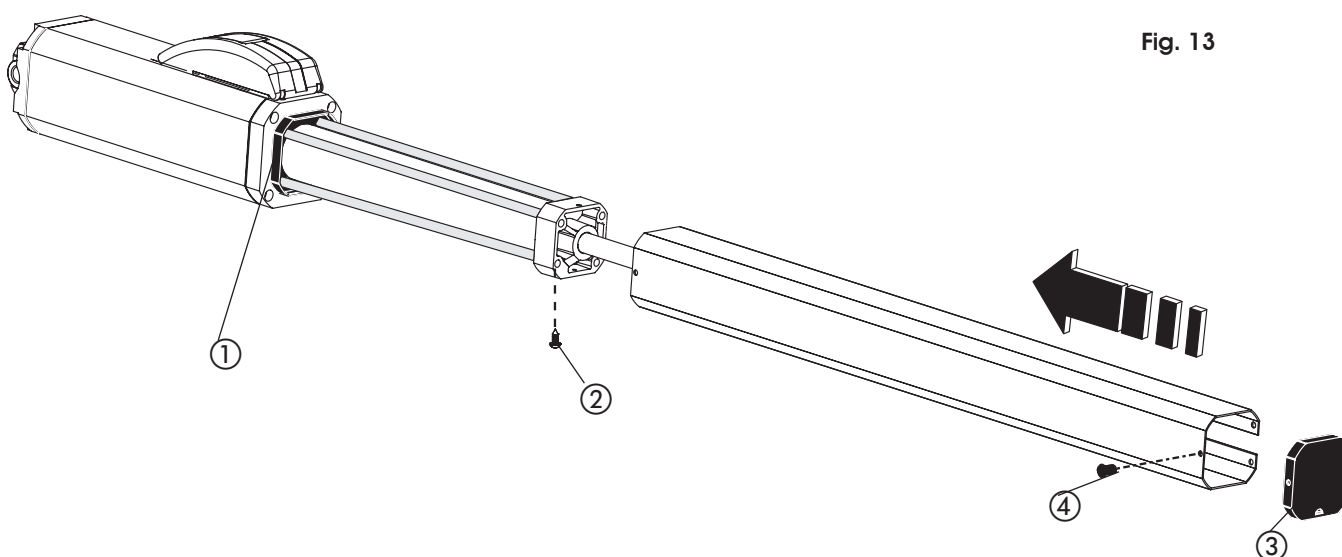

Fig. 13
Slip the cover over the operator. The slit in the cover should face the gate, and the cover should be placed firmly over the rear of the operator cover (Fig. 13, ref ①). Secure the cover to the operator using the self tapping screw ②.